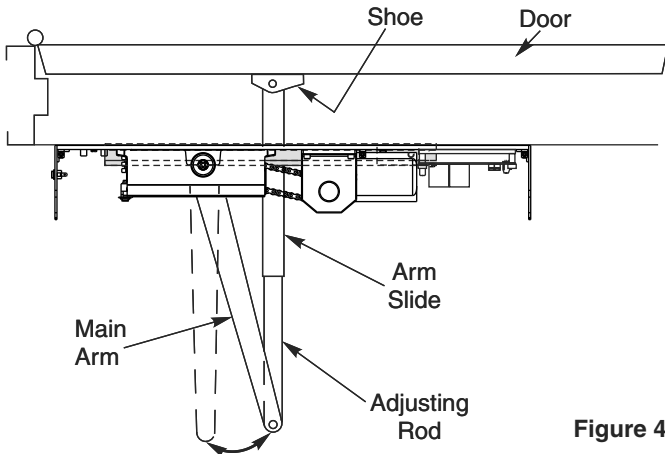

Figure 4
**Step 8:** PRELOAD ARM (See Fig. 4, below): Remove 1/4-20 hex head screw on adjusting rod and insert adjusting rod into arm slide. Reinstall 1/4-20 screw and leave loose. Rotate main arm in direction away from the hinge edge until the adjusting rod and arm slide are perpendicular (at a 90° angle) to the door frame. Tighten the 1/4-20 hex head screw on the adjusting rod to secure arm in this new position.